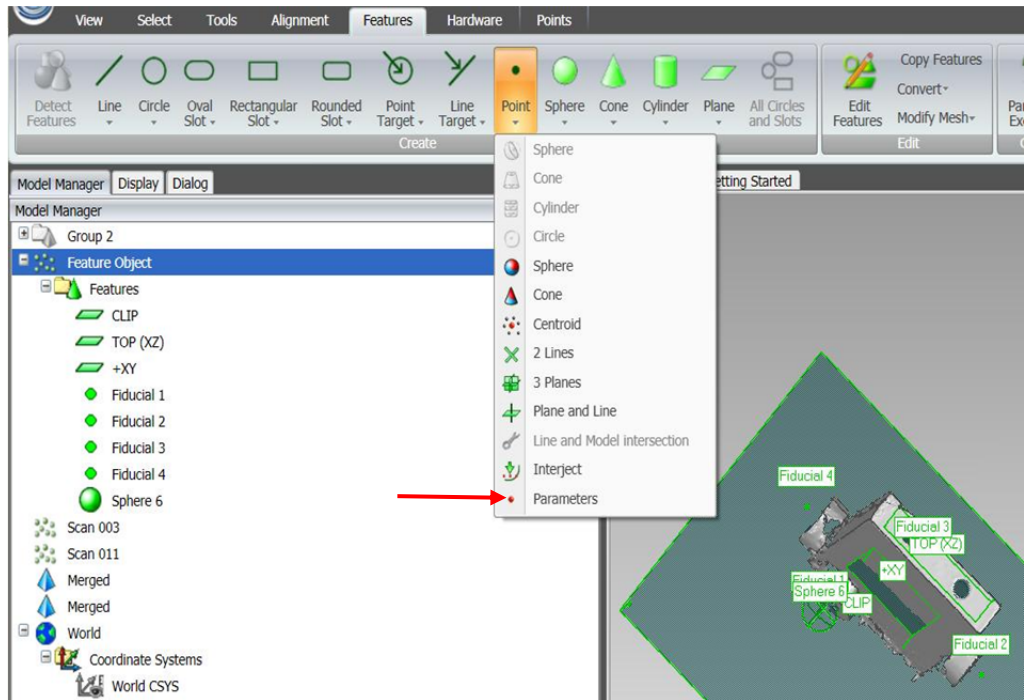

Figure B-9. Fiducial Path
12. Next capture the fiducial points, which can be done several ways for example, using fiducial spheres in magnetic nest (Figure B-9)